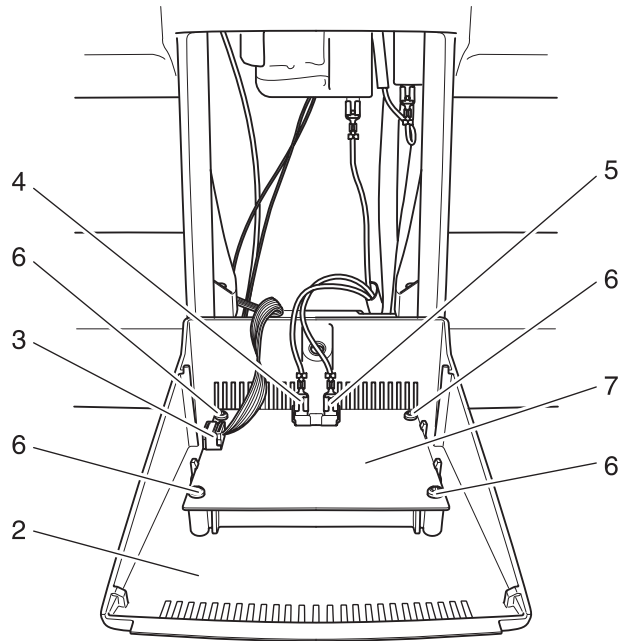

Fig. 16a
- Disconnect plugs 3 to 5 from the circuit board (fig. 16a).
- Connect plugs 3 to 5 onto the circuit board (fig. 16a).